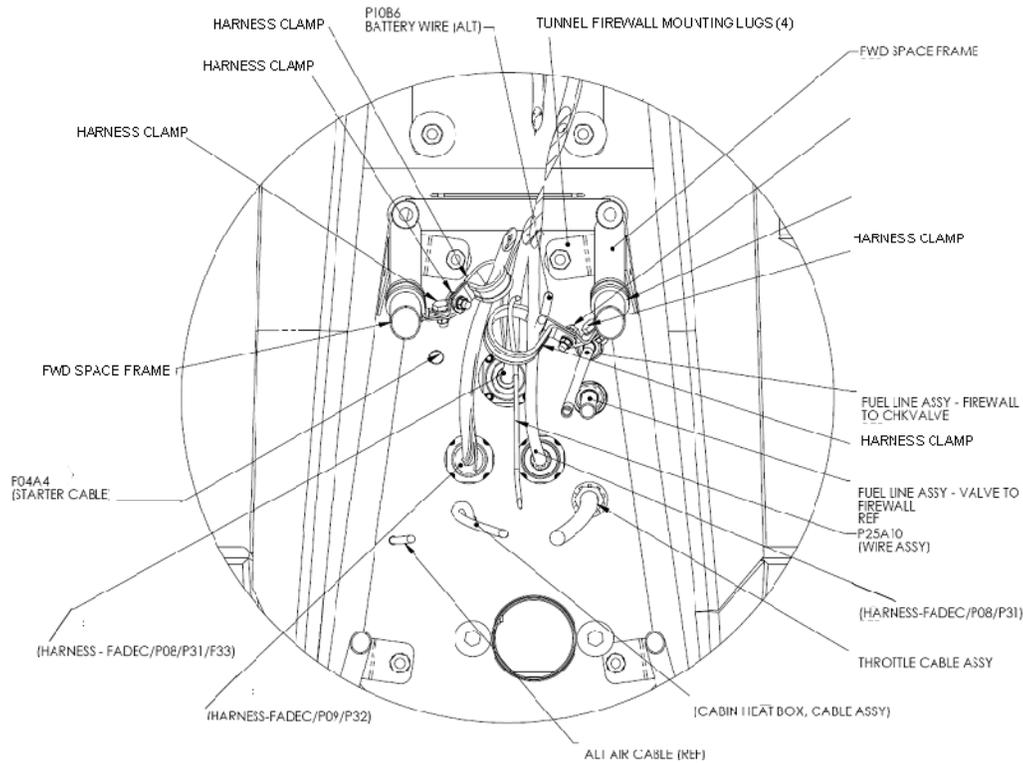

Figure 71-35 Tunnel Firewall Assembly Connects - Fuselage
4. Connect the Tunnel Firewall Assembly fuselage side components as shown in Figure 71-35.